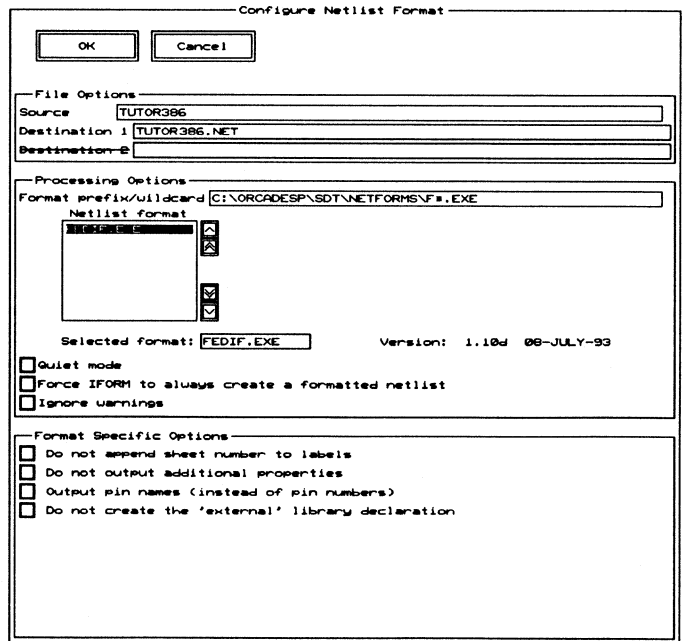

Figure 3-17. The *Configure Netlist Format* screen.
2. Select **Configure IFORM**. The **Configure Netlist Format** screen displays (figure 3-17).